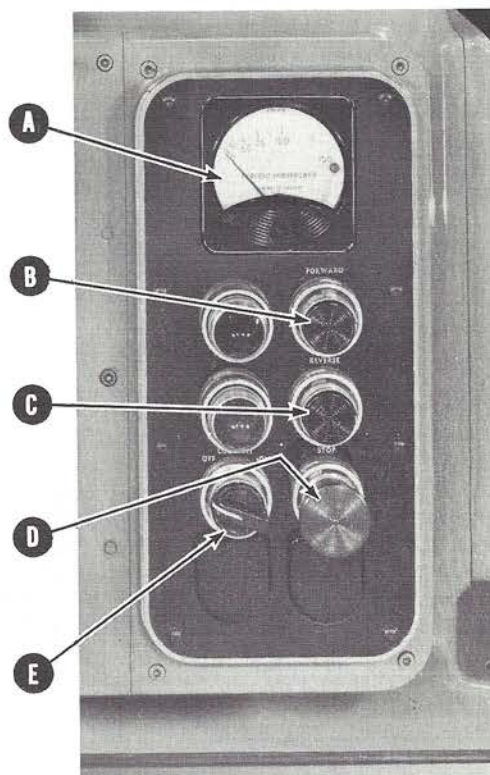

FIGURE 11 ELECTRICAL CONTROL PANEL
The electrical control panel, Figure 11, is located on the front of the headstock. It is within easy reach of the operator at all times with the control buttons clearly marked for quick identification. (A) is the horsepower meter, (B) forward, (C) reverse, (D) stop, (E) coolant pump starter.